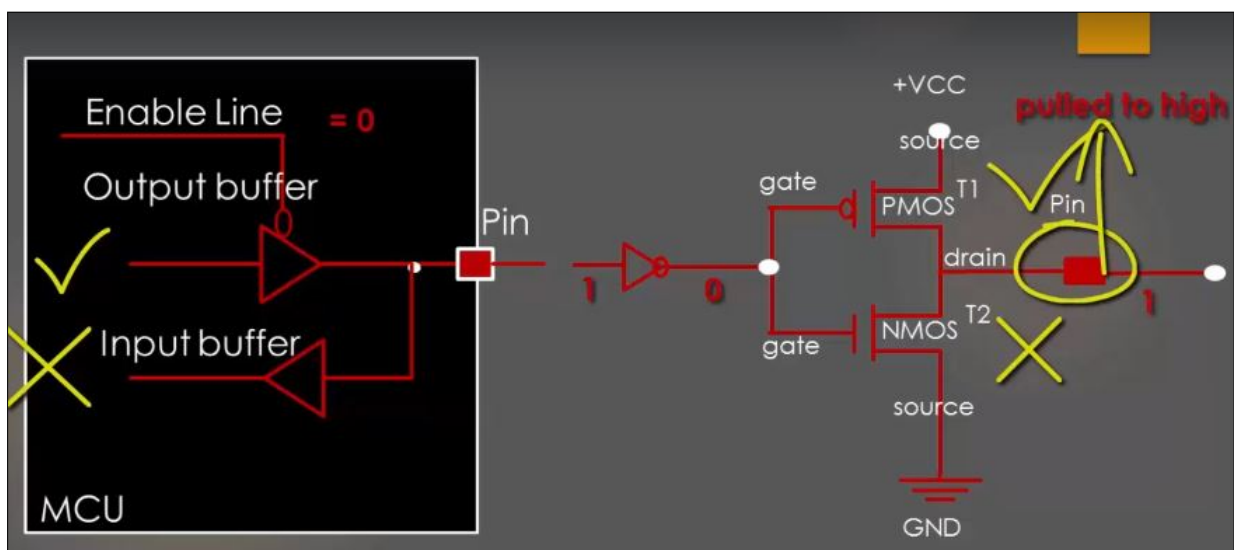

Figure 2.1: GPIO pin: output mode
A GPIO pin is nothing more than 2 buffers with some enable line as shown in Figure 2.1.
- In input mode, the CMOS circuit behave as rotated circuit compared to Figure 2.1